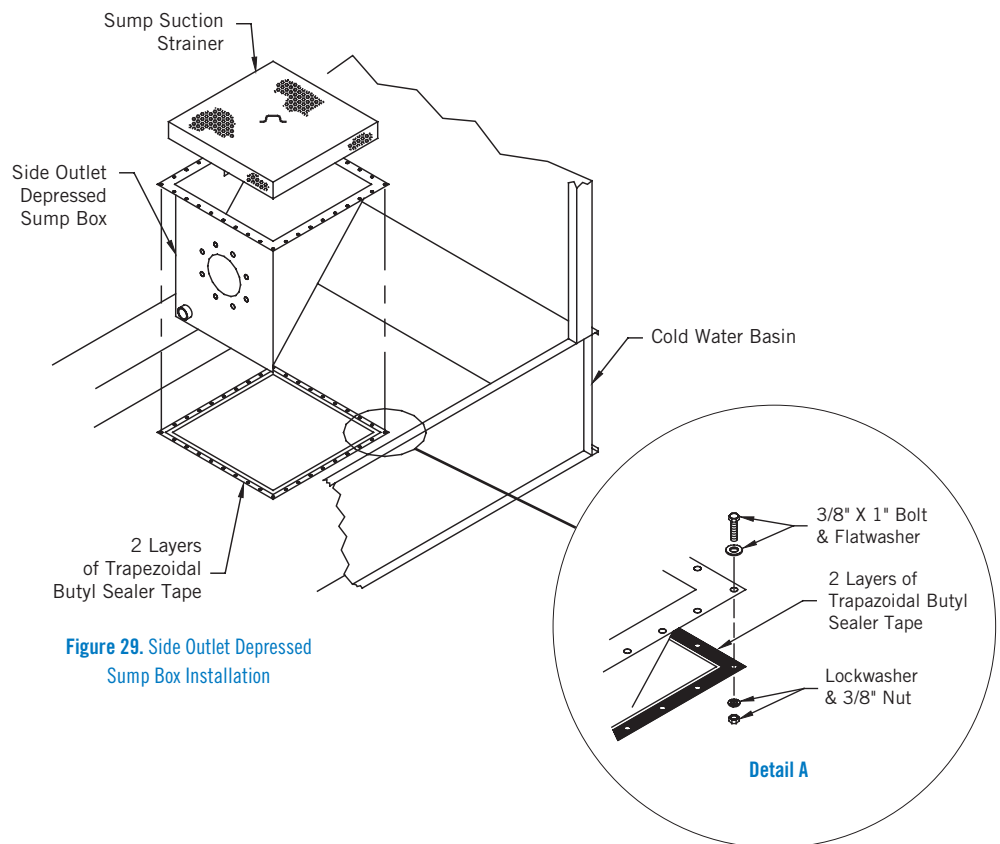

Figure 29. Side Outlet Depressed Sump Box Installation
3. Insert the sump box assembly into the opening in the cold water basin and attach it to the basin with 3/8" x 1" bolts, flat washers, lock washers, and nuts as shown in **Figure 29, Detail A**.